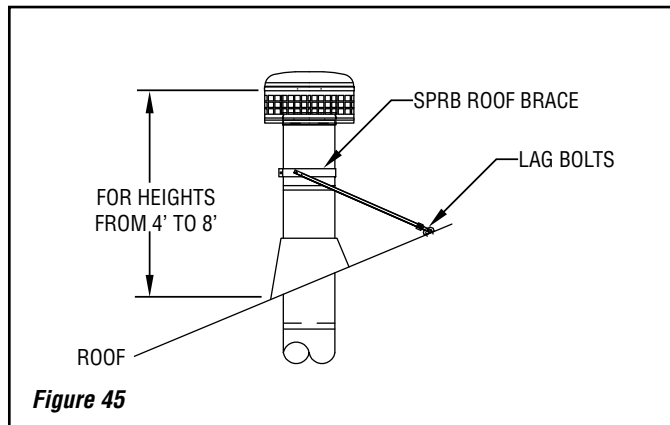
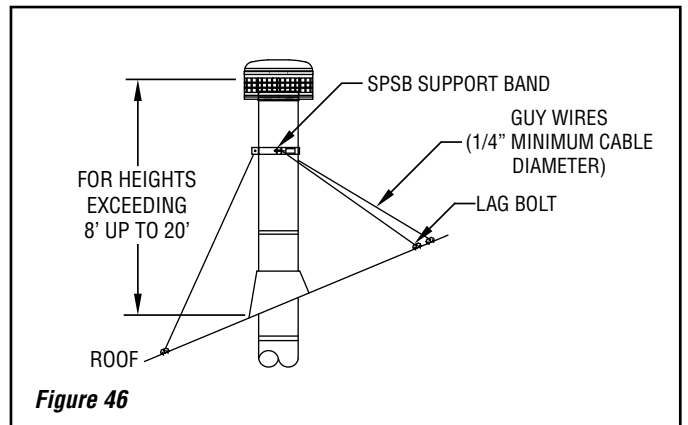

Figure 45
Figure 46
Select the proper support for your application-using either a roof brace (**Figure 45**), or a support band with guy wires (**Figure 46**)
3. Position the support legs as shown in **Figure 45**. The length of the support legs can be adjusted by loosening the bolt on the leg clamp.